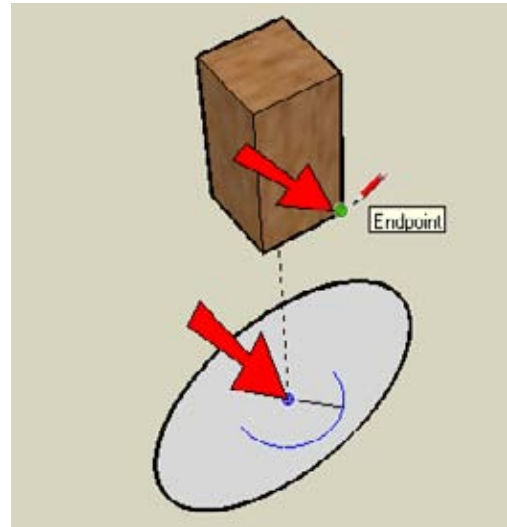

Figure 4-35
5. Because the box corners are to be rounded evenly, the rounding must be based on a sphere whose extents meet the box corners. So draw a horizontal circle, perpendicular to and concentric with the large circle. The number of sides should be a multiple of four, because the circle has to align with the four corners of the box. To establish the radius, click on a corner of the box above the circle (Figure 4-35).